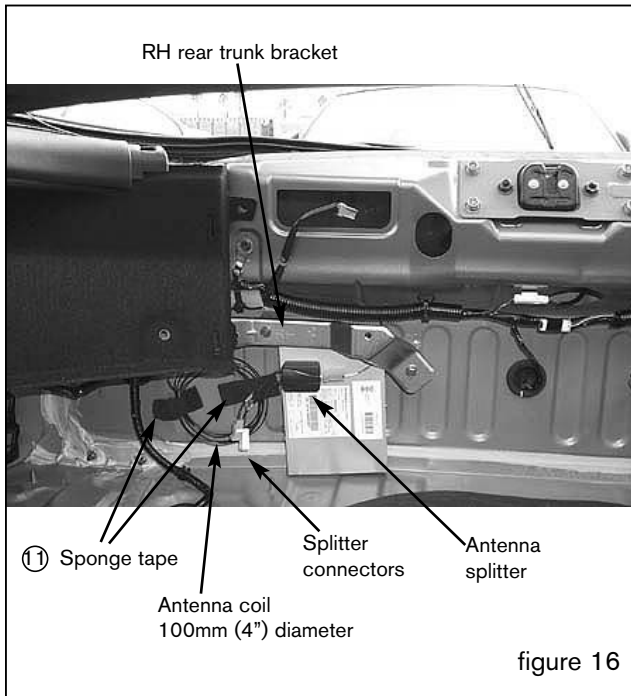

figure 16
9. While reinstalling (RH) trunk bracket use the right bolt to secure the ground connection for the satellite tuner unit. figure 16
3. Peel off tape protector from the splitter. Place the splitter on the top of the tuner. Secure the antenna splitter to the tuner by applying downward force with hand pressure. figure 16.
7. Attach the antenna cable loop to the back of the trunk panel with sponge tape at two locations. figure 16